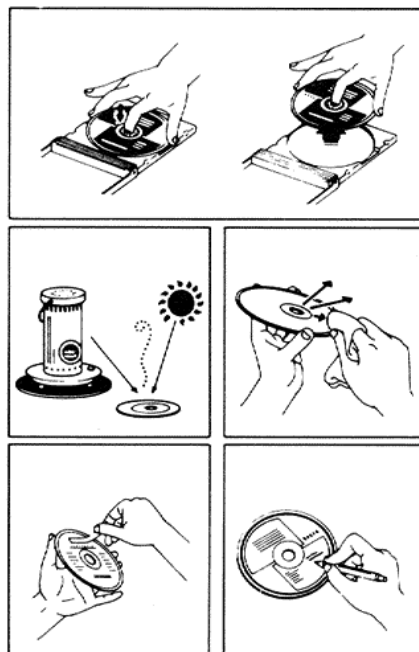

Fig.2
- **Maintenance of discs (Fig. 2)**